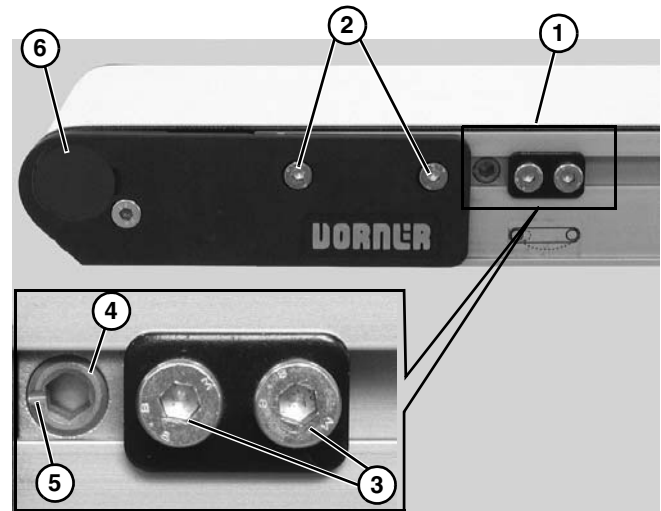

Figure 25
Non V-guided belt conveyors are equipped with belt tracking cam assemblies (**Figure 25, item 1**) for belt tracking adjustment.
1. Ensure head plate fastening screws (**Figure 25, item 2**) on both sides of conveyor are tightened.
2. On both sides of conveyor, loosen two (2) cam fastening screws (**Figure 25, item 3**). Adjust cams (**Figure 25, item 4**) until indicator slots (**Figure 25, item 5**) are horizontal and facing end of conveyor. Then slide cam assemblies against head plates (**Figure 25, item 6**) and re-tighten cam fastening screws (**Figure 25, item 3**) to 60 in-lb (7 Nm).
3. On the side toward which the belt is tracking, loosen head plate fastening screws (**Figure 25, item 2**).
4. With the conveyor running, use a 5 mm hex-key wrench to rotate the tracking cam (**Figure 25, item 4**) in small increments until the belt tracks in the center of the conveyor. Then while holding the cam in position, re-tighten the head plate fastening screws (**Figure 25, item 2**) with a 4 mm hex-key wrench to 60 in-lb (7 Nm).